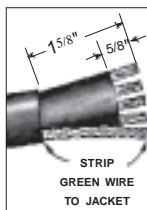

Fig. 1
- Strip cord jacket and conductor insulation as shown in Fig. 1 at right. Note difference between GREEN conductor and other conductors. **DO NOT TIN CONDUCTORS.**